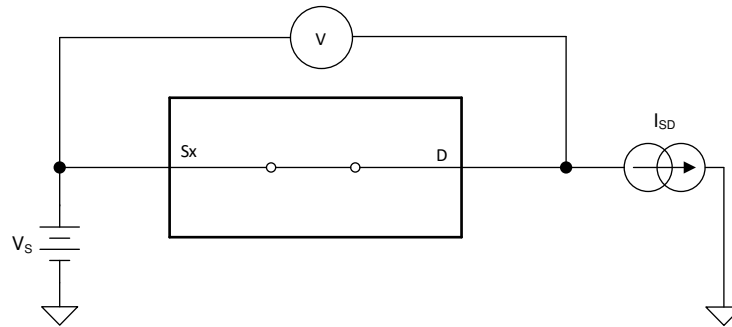

Figure 8-1. On-Resistance Measurement Setup
The on-resistance of a device is the ohmic resistance between the source (Sx) and drain (D) pins of the device. The on-resistance varies with input voltage and supply voltage. The symbol R_{ON} is used to denote on-resistance. The measurement setup used to measure R_{ON} is shown below. Voltage (V) and current (I_{SD}) are measured using this setup, and R_{ON} is computed as shown in Figure 8-1 with $R_{ON} = V / I_{SD}$: